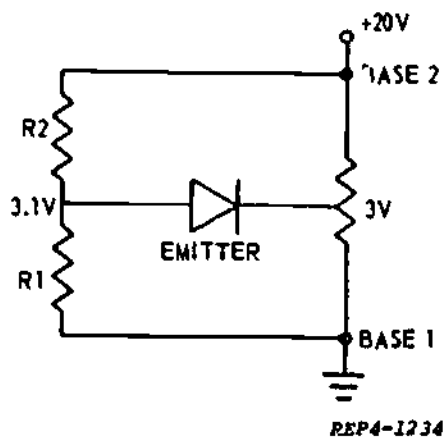

Figure 1
2. Refer to figure 1. Under the condition shown, current through R_2 is (high) (low) and the emitter-base 1 junction is (forward) (reverse) biased.